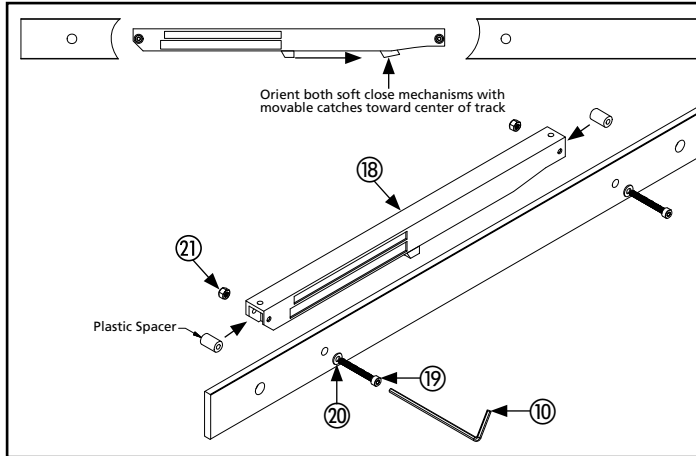

Figure 17. Soft Close Orientation
1. Align the soft closes ⑱ on the track as shown in Figure 17, with movable catches loaded towards the center of the track.
3. Fasten the soft close to the track using the supplied M4 x 35mm socket cap screws ⑲, M6 washers ⑳ and M4 locking nuts ㉑.
4. Fasten with supplied 3mm Allen wrench ⑩.
- 2. Check the position of soft close catch. Both should be loaded towards the center as noted in Step 5: Soft Close and Track Installation, Figure 17.